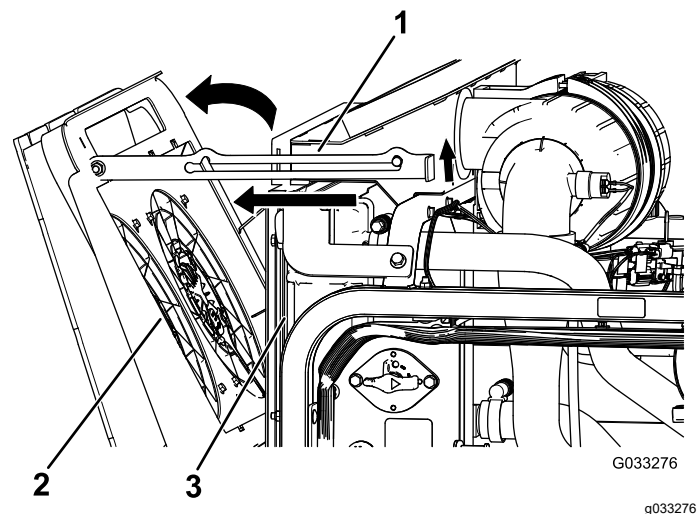

Figure 86
2. Pivot the engine-cooling fans rearward of the radiator and lock the prop rod into the notch (Figure 86).